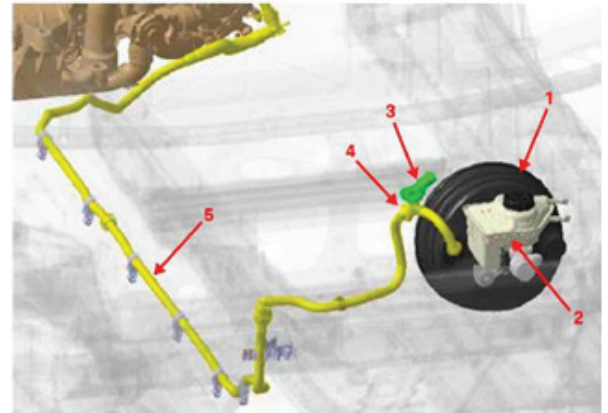

Figure 1
The value of the vacuum line pressure sensor (3 in Figure 1 below) upstream of the brake booster is stored immediately after Terminal 15 is activated. The value is recorded again after 1.5 seconds. Fault P055600 sets if the difference between the two values does not meet or exceed the threshold defined by the DME.
- Figure 1: numbers 3, 4, and 5